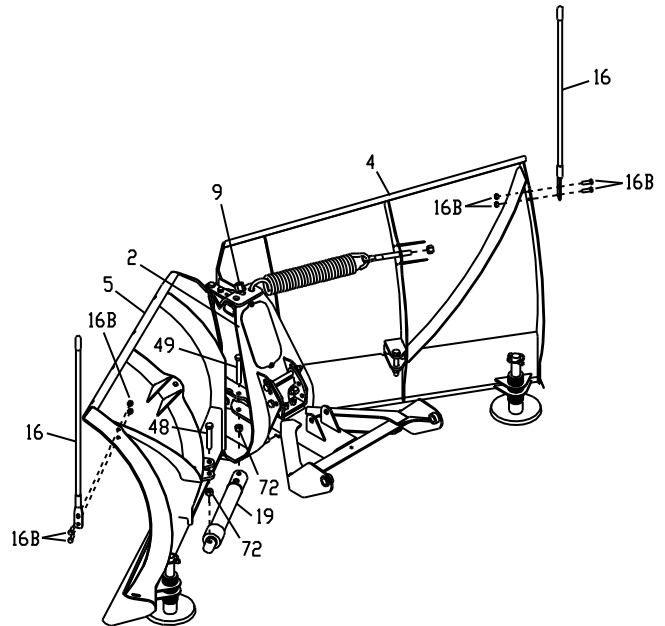

Figure 3. Cylinder & Blade Guide Assembly G10627
12. Hook one end of **MSC01509** Return Spring to the top hole on Center Section (2). Hook the opposite end of Return spring through 1/2" hole in closest rib to the center using 1/2" Spadebolt, 1/2" Flat Washer, and 1/2" Self-Locking Nut (**See Figure 3**). Tighten Spring until there is a 1/32" space between spring coils. Repeat this process for Return Spring on the opposite side of the plow.
14. Tighten Trip Spring Yoke (9) until 1-1/2" of thread is above the top of Center Section (2), or until desired spring tension is achieved.
15. Install Blade Guide (16) on outer rib of driver side Blade Half (5). Fasten using two 5/16" X 1" Hex Head Cap Screws (16B) and two 5/16" Nylon Lock Nuts (16B).
16. Repeat for passenger side Blade Guide (16).